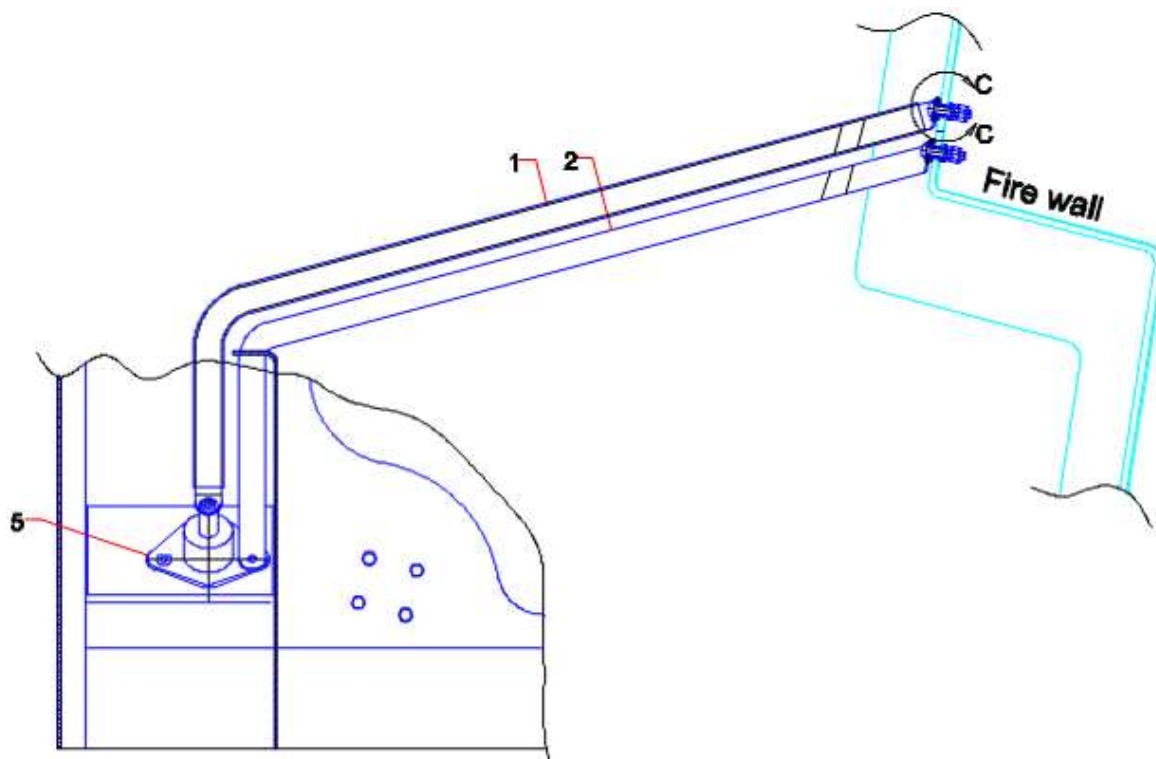

Figure 4. Looking outboard on the left hand side of the cockpit.
12. Install the bus bars (items 1 and 2). Use double sided tape to hold the bus bars against the fuselage shell. See Figures 4 and 5.
- D. Coat all the connections on items 1 and 2 with Nycote 7-11.